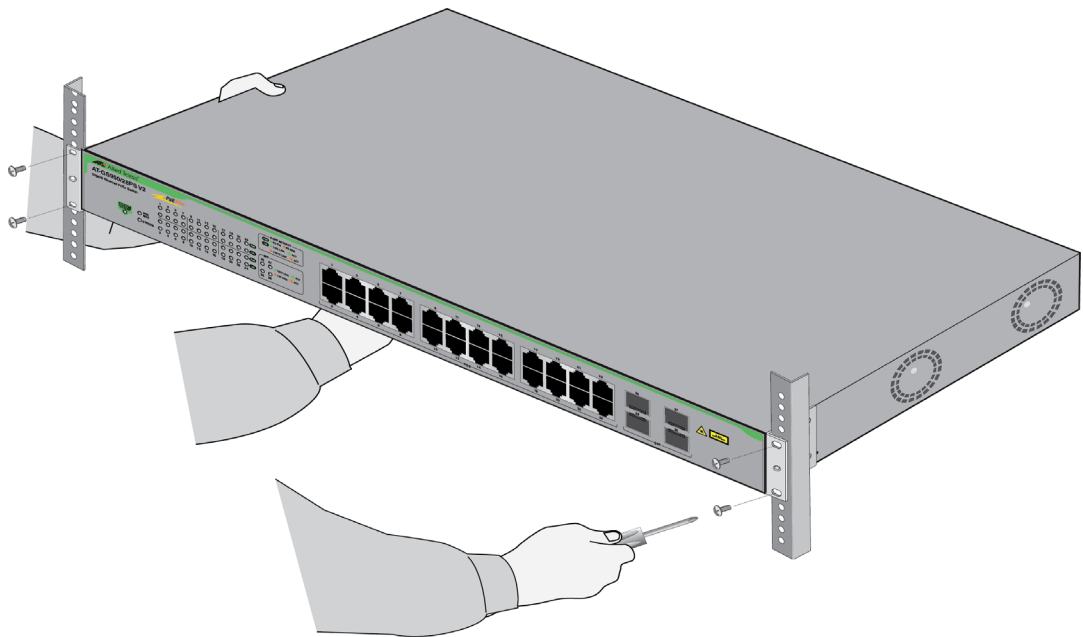

Figure 23. Installing the Switch in an Equipment Rack
4. Have another person hold the switch in the equipment rack while you secure it using the four equipment rack screws provided with the switch. Refer to Figure 23.